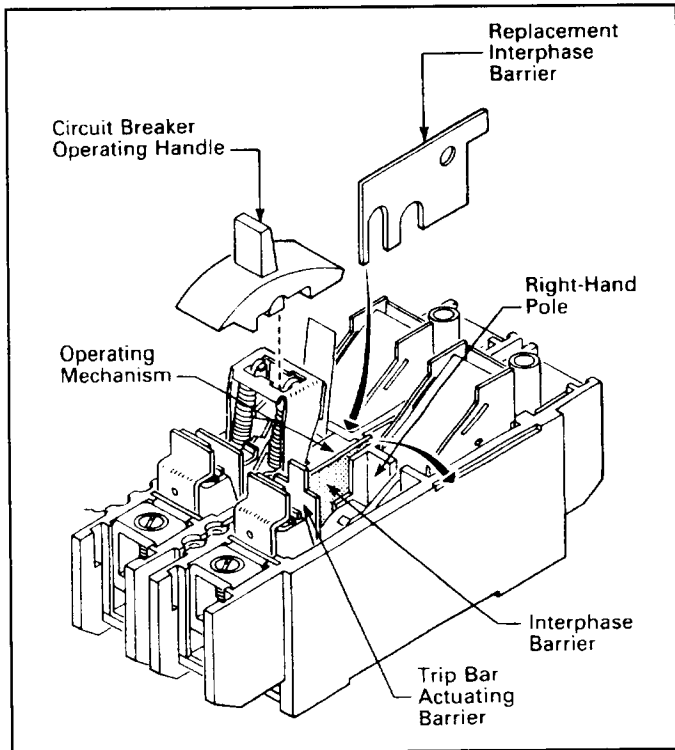

Fig. 2-2 Circuit Breaker Base Assembly with Cover Removed. Replacement of Right-Hand Interphase Barrier
- 2-4. Remove circuit breaker operating handle from handle arm (Fig. 2-2).
- 2-5. Trip the circuit breaker mechanism by lightly depressing the trip bar actuating barrier (Fig. 2-2).
- 2-6. Remove interphase barrier between right-hand pole and operating mechanism. Insert replacement interphase barrier (Fig. 2-2).
- Close the circuit breaker. Trip the circuit breaker by depressing the barrier (which rotates the trip bar). (See Fig. 2-2.) The ASL switch actuator should move upwards.
- 2-12. Install circuit breaker handle on handle arm (Fig. 2-2).